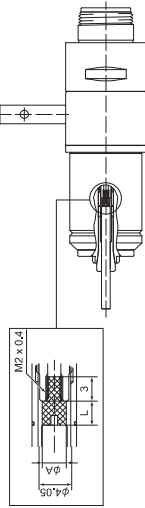

Fig. 5
Please make the stopper by your own to adjust "Tool Mounting Depth". Utilize the screw M2 x 0.4 / 3 in the spindle in consideration for "Dimension ϕA " to fit for tool shank diameter and the required adjust length (L) refer to Fig. 5.